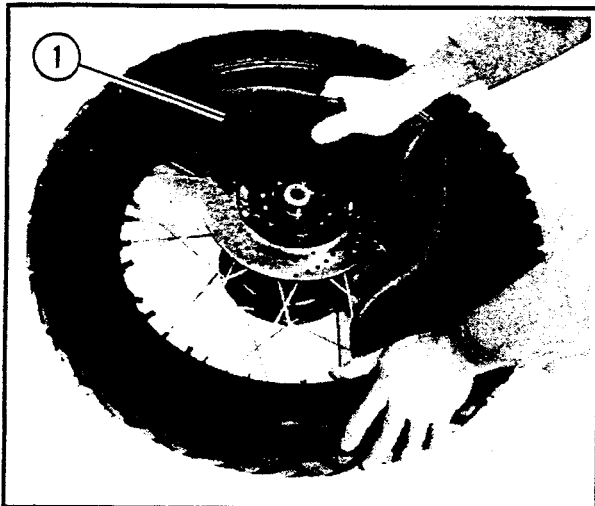

Figure 5-69. Removing Inner Tube
11. See Figure 5-69. Remove inner tube (1) from tire.